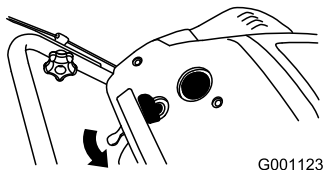

Figure 15
- Move the choke lever to the right (Figure 15).